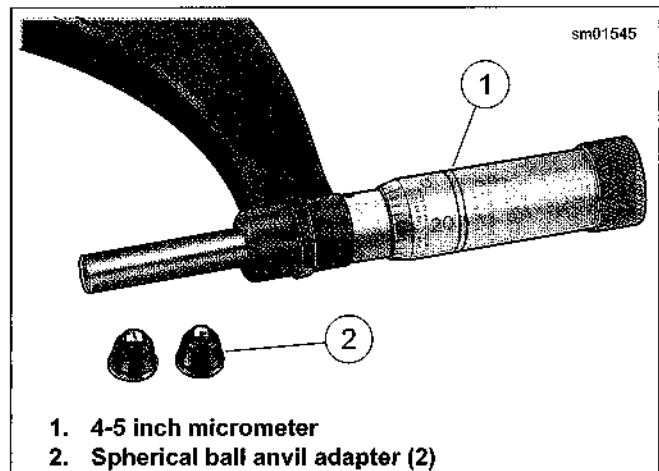

Figure 3-51. Micrometer with Anvil Adapters
- See Figure 3-51. The oval openings are too small for a standard flat anvil micrometer. Use a 3-4 inch blade or ball anvil style micrometer, or a 4-5 inch micrometer with spherical ball anvil adapters.